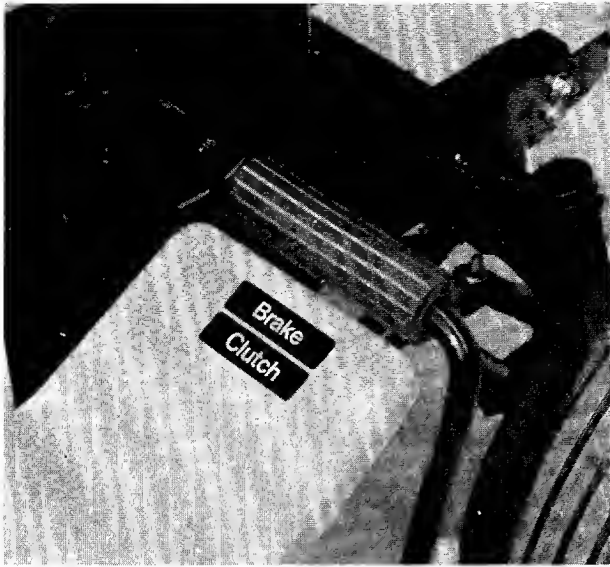

FIGURE 6.
Pressing the pedal all the way down disengages the clutch and engages the disc brake. See figure 6.
2. Depress the clutch-brake pedal and set the parking brake. See figures 6 and 7.
7. Slowly depress the clutch-brake pedal so the parking brake is released and then release the clutch-brake pedal. See figures 6 and 7.
8. To stop the tractor, pull the gear shift lever into "NEUTRAL" (N) or depress the clutch-brake pedal.